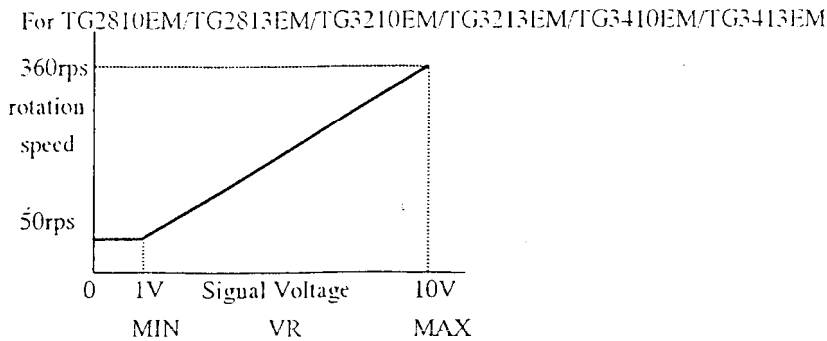

Figure 4. The rotation speed vs. the input signals
4) The relationship between the rotation speed and the input signals are shown in Figure 4.